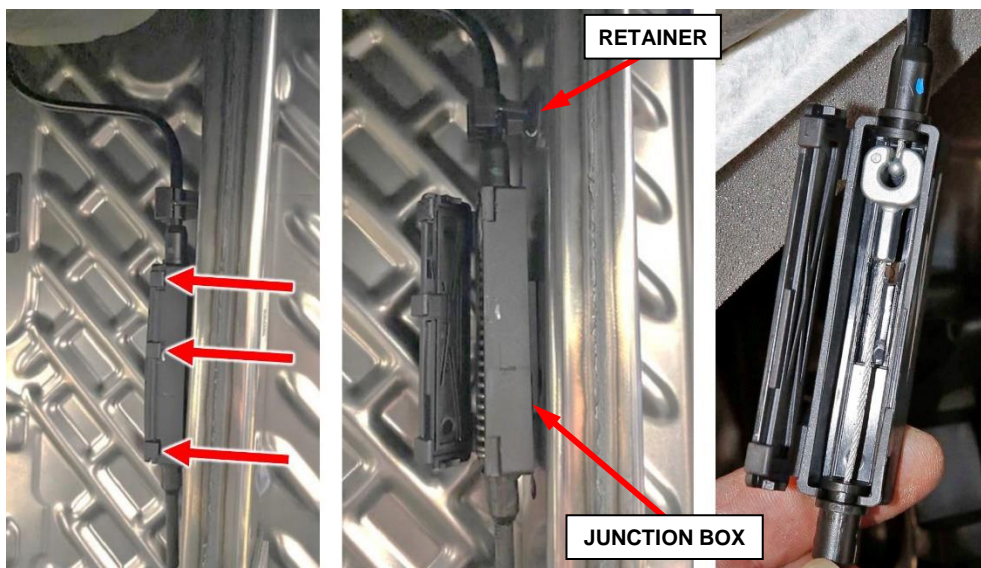

Figure 25 – Headrest Cable Junction Box
23. Open the headrest cable junction box cover by using a small flat head screwdriver to release the three tabs (Figure 25).
24. Remove the headrest cable end fitting from the junction box (Figure 25).
25. If there is a retainer just above the junction box, release the headrest cable from the retainer (Figure 25).
77. Install the headrest cable end fittings into the junction box and ensure the cable ends are connected to each other inside the junction box (Figure 25).
78. Close the headrest cable junction box cover and ensure the cover is secured by the three tabs (Figure 25).
79. Secure the headrest cable to the retainer on the seat back frame sidemember (Figure 25).